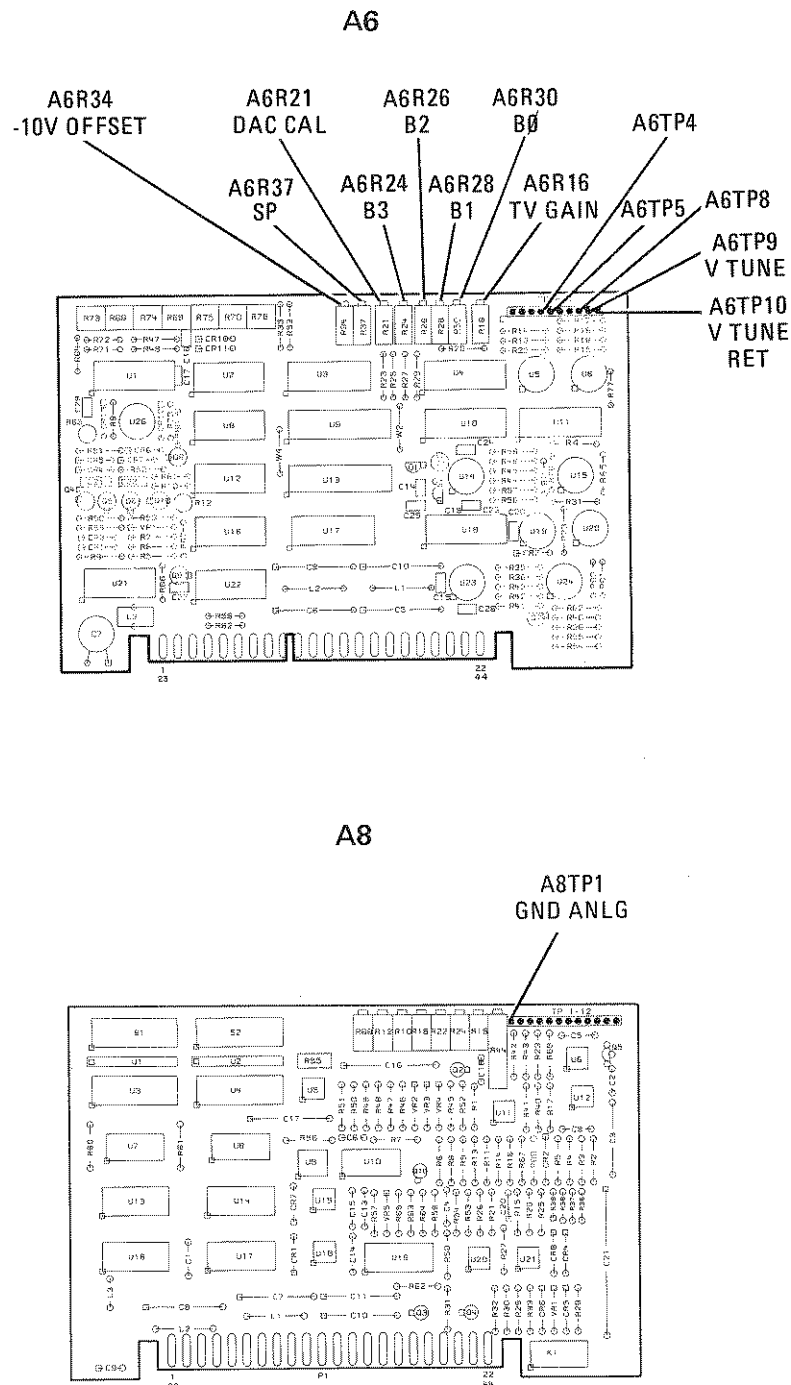

Figure 5-4. Sweep Control Adjustment Locations
5. Connect the DVM to A6TP5 and adjust A6R16 (TV GAIN) for a DVM reading of -10 ± 0.001 Vdc. Refer to Figure 5-4 for sweep control adjustment locations.